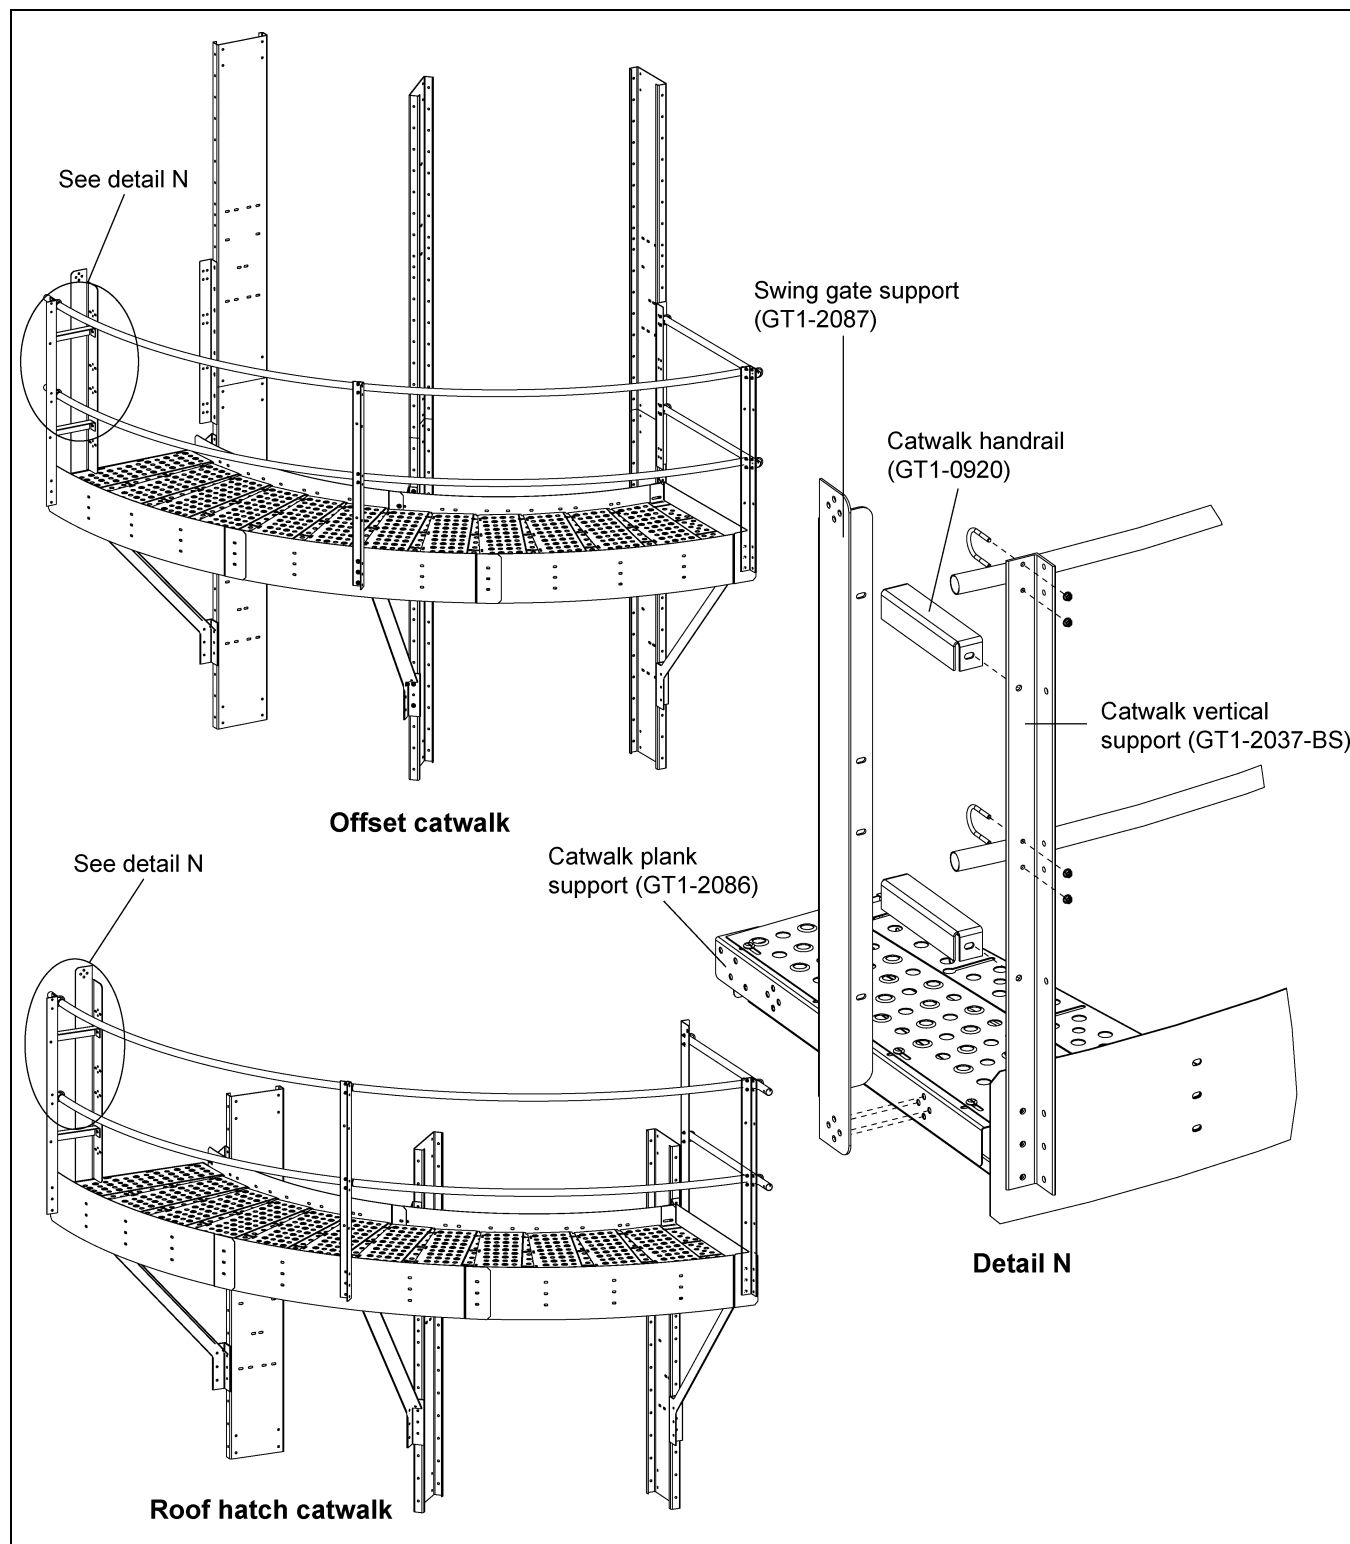

**Figure 6W** Roof Hatch Platform End Handrail (GT1-2044) Installation
3. Install the platform end handrail (GT1-2044) to the catwalk vertical support (GT1-2037-BS) and the platform end plate (GT1-2045). *(See Figure 6V below and Figure 6W on Page 55.)*